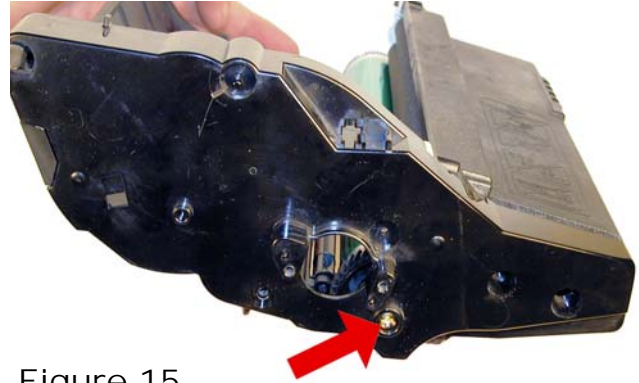

Figure 15
12) On the waste hopper. remove the gold colored screw from the drum axle, work the waste section away from the frame. See **Figure 15**.